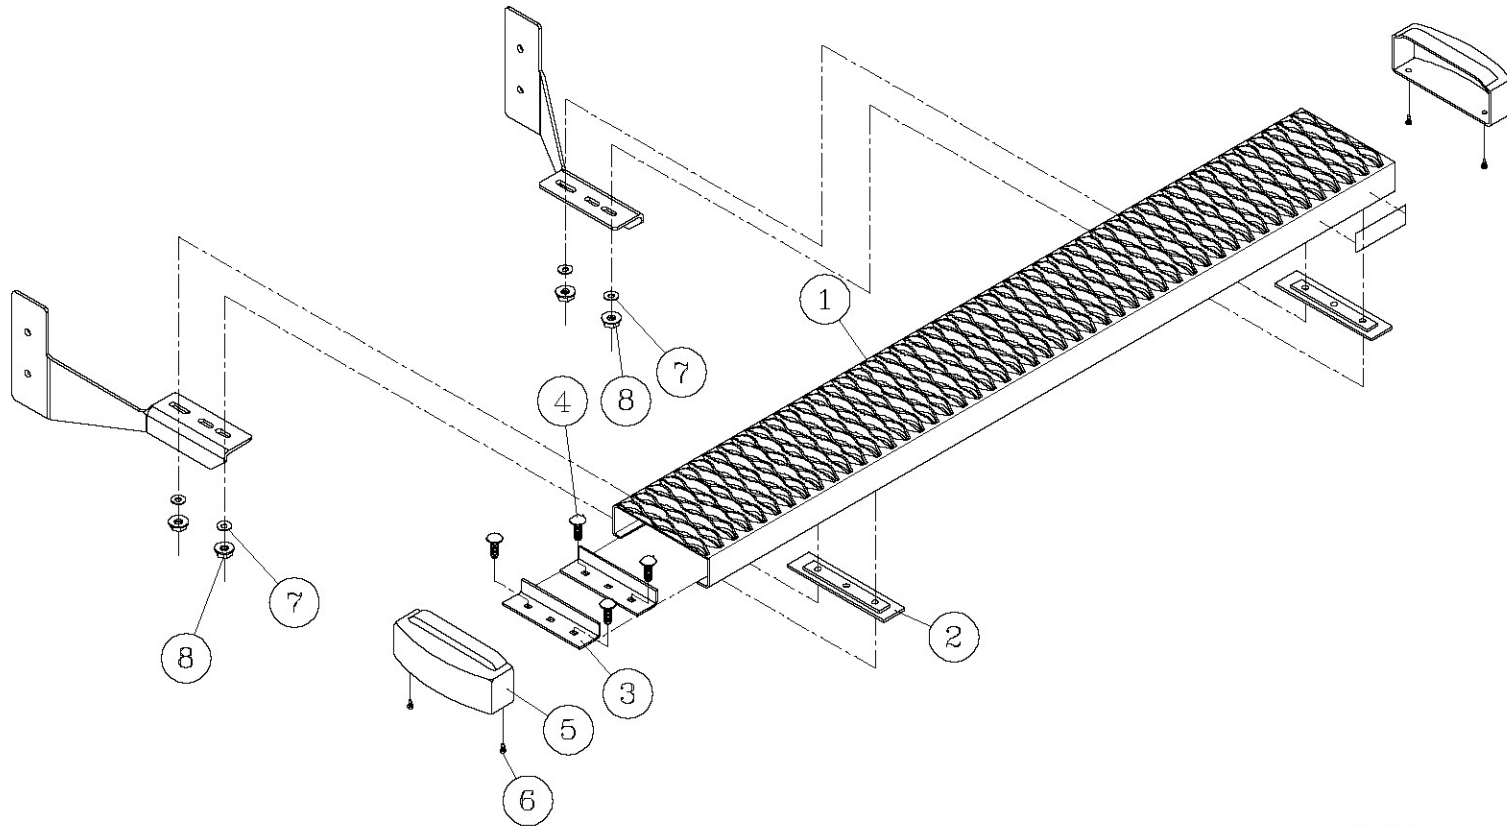

FIG. 1
2. ATTACHING THE BRACKETS TO THE VEHICLE AS SHOWN IN FIG 1: